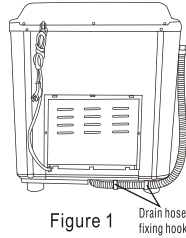

Figure 1
- Figure 1 indicates the ex factory installation position of the drain hose.